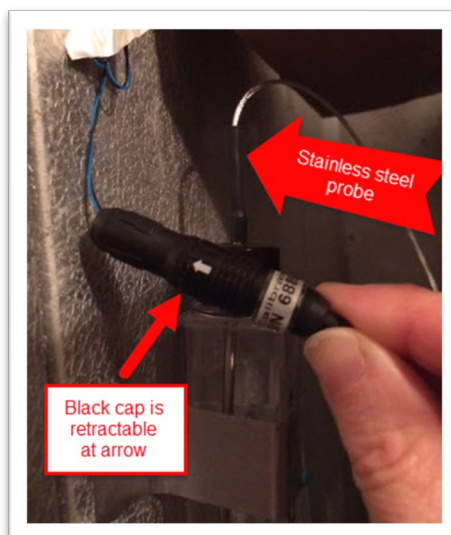

Figure 2 – Unplug probe from extension cable
- 4.4. Alternately, the sensor is mounted on the outside of the appliance and connected to the probe inside the appliance by an extension cable. (Figure 2) Remove the probe from the glycol bottle and disconnect it from the extension cable inside the appliance by pulling back the black cap.